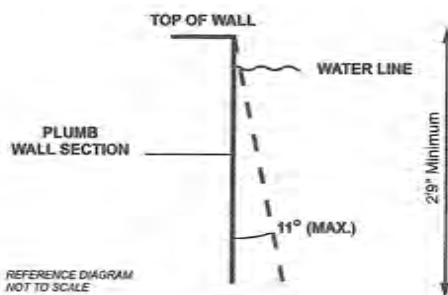

Figure 1 - Maximum allowable wall slope
5.3.1 Walls in the shallow area and deep area of the pool shall not slope greater than 11° (1.5 slope ratio) to a transition point. The transition point shall not be less than 2 feet and 9 inches (83.8 cm) below the waterline. See figure 1.